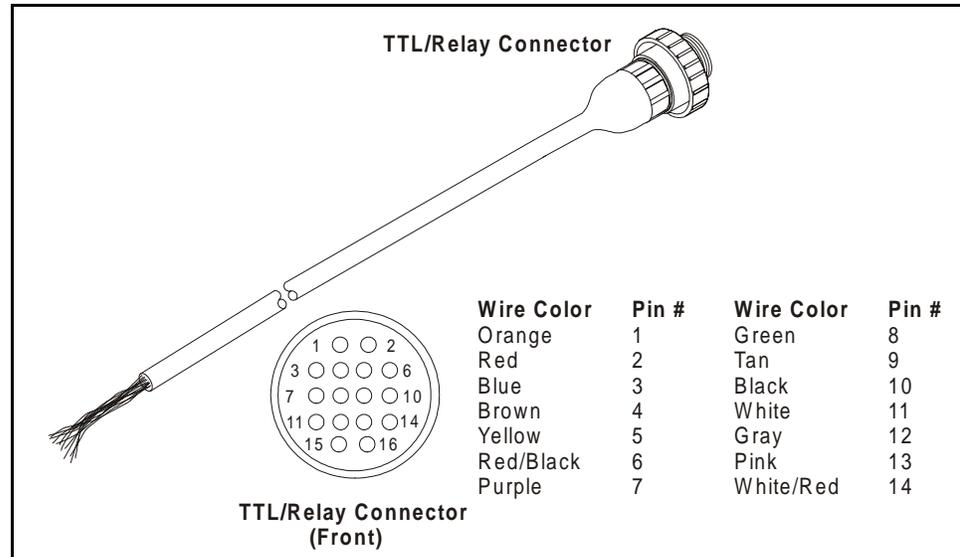

Figure 12-4. TTL/Relay Cable and Connector Pinout
1. Connect the DX-800 TTL/Relay cable (P/N 052899) (see Figure 12-4) to the **TTL/Relay** connector on the AE80 top panel.